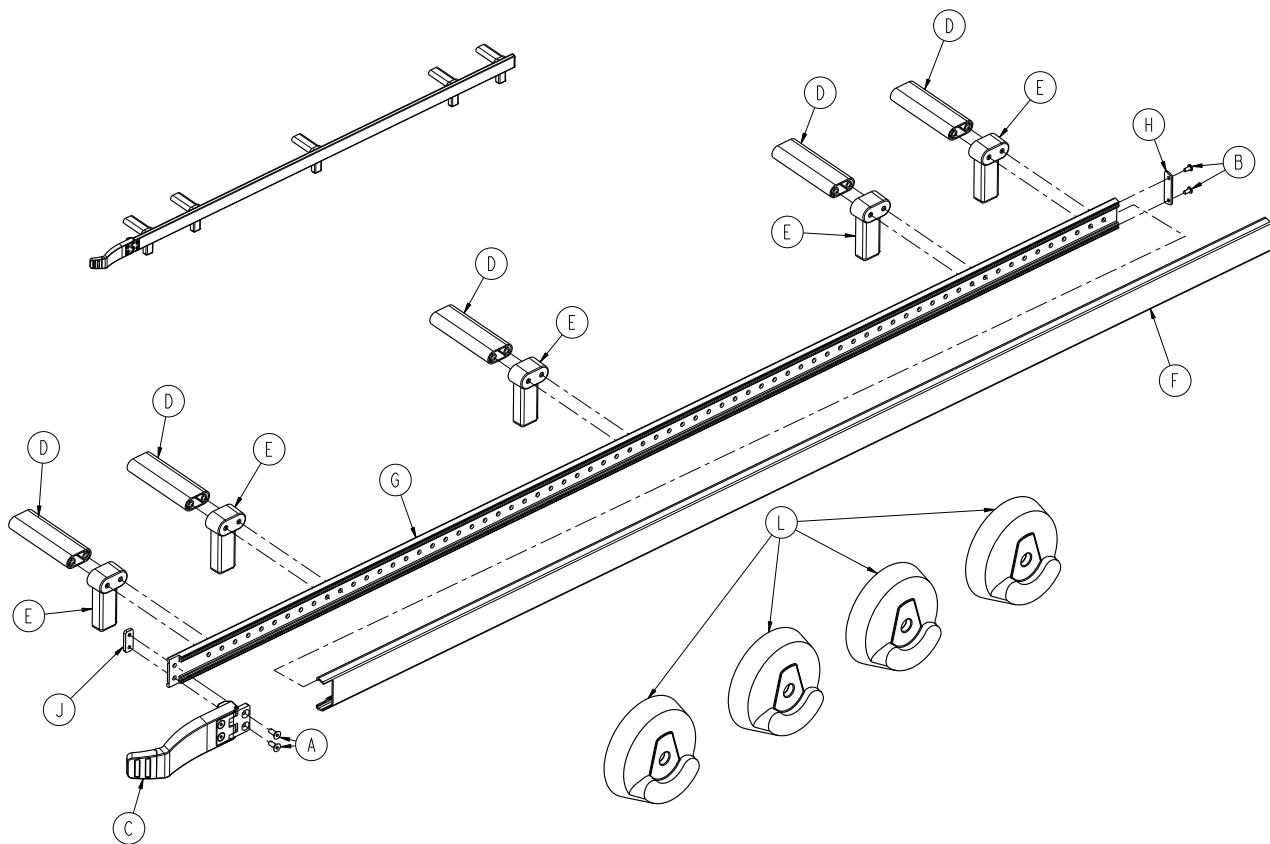

Figure 29: Optional Wheel Guide Kit Components - 6390-027-000
8. Using a pencil, mark each of the holes in the five areas where a wheel turner support will be located on the wall (cabinet) as shown in Figure 29.
13. Using a T25 Torx driver, install the two pan head machine screws (0023-296-000) (B) to secure the wheel turner cap (6390-001-178) (H) to the head end of the wheel kicker rail.
14. Slide the wheel kicker rail bumper (6390-001-175) (F) over the wheel kicker rail from the foot end of the vehicle patient compartment to the head end.
15. Using a 5/32" Allen wrench, install the two flat head cap screws (0001-195-000) (A) through the wheel guide assembly (6390-001-017) (C) hinge and the wheel kicker rail to the wheel turner nut (6390-001-191) (J) as shown in "Figure 29: Optional Wheel Guide Kit Components - 6390-027-000" on page 35.
16. Install the four wheel covers (6390-001-206) (L) to the patient right side of the cot that is to be used with the wheel guide assembly. See "Installing Cot Wheel Covers" on page 37.